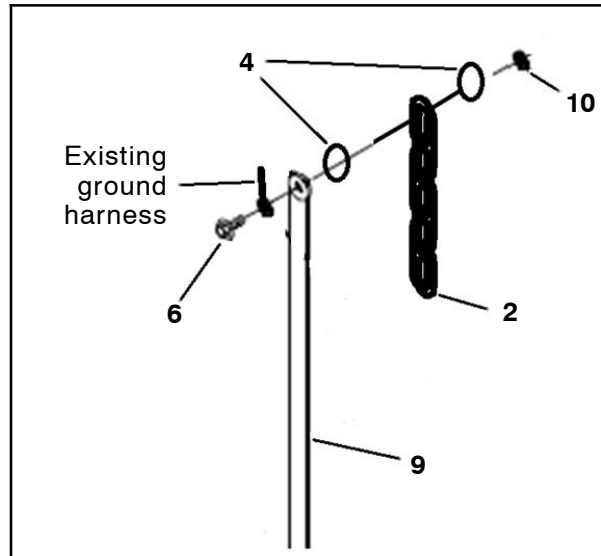

FIG. 12
12. Reinstall all parts and components removed to install the green wire (8) and the black wire (5) into the hopper.
13. Use the M8 hex screw (3), two flat washers (4), and star washer (10) to secure the ground chain (2), static strap (9), and existing ground harness to the frame of the machine on dual force sweep machines. (Fig. 12)